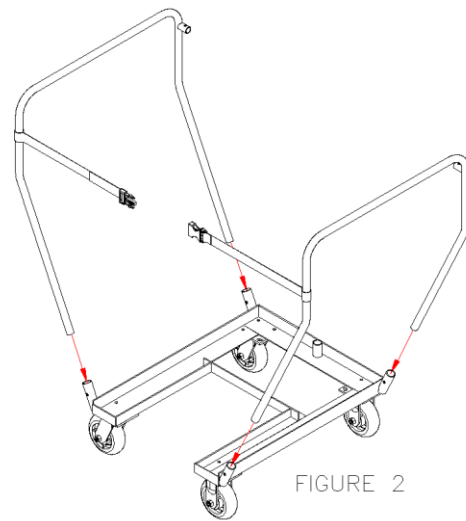

FIGURE 2
3. Insert the left and right Handles into the sockets on the base (See Figure 2).